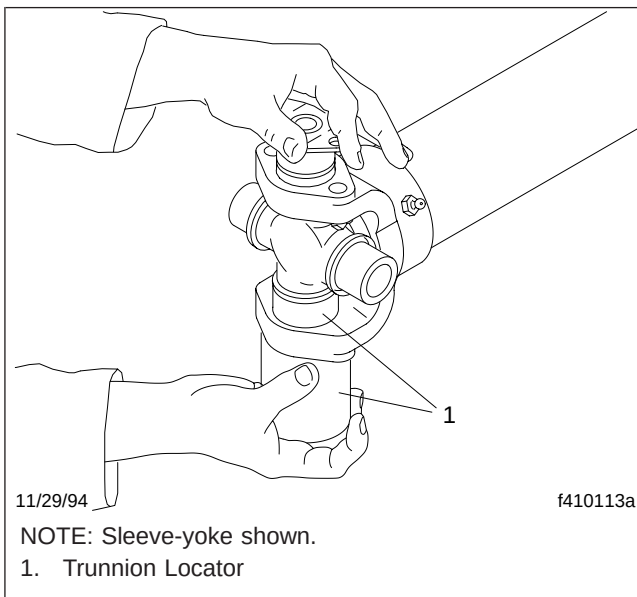

Fig. 8, Using a U-Joint Trunnion Locator
- 4.2 Move one end of the cross until a trunnion projects through the cross-hole, beyond the outer machined face of the yoke lug. Using a Spicer trunnion (journal) locator (see Specifications 400), hold the trunnions in alignment with the cross-holes, while placing a bearing cup (plate-type) over the projected trunnion, and aligning it with the cross-hole. See Fig. 8.